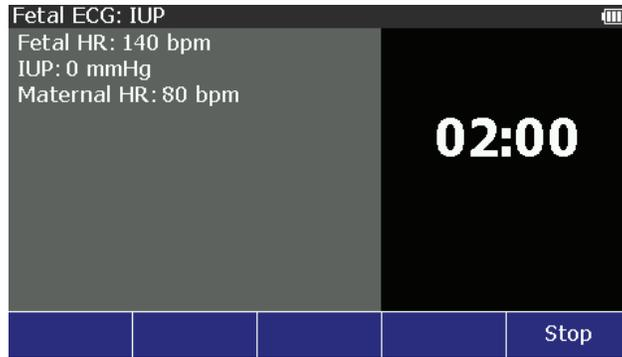

Figure 17. Fetal ECG Intrauterine Pressure Screen
5. To start a contraction, push the **Start** softkey. The screen below shows in the display and updates with real-time simulation data. The time until the contraction ends is also shown in the display. See Figure 17.